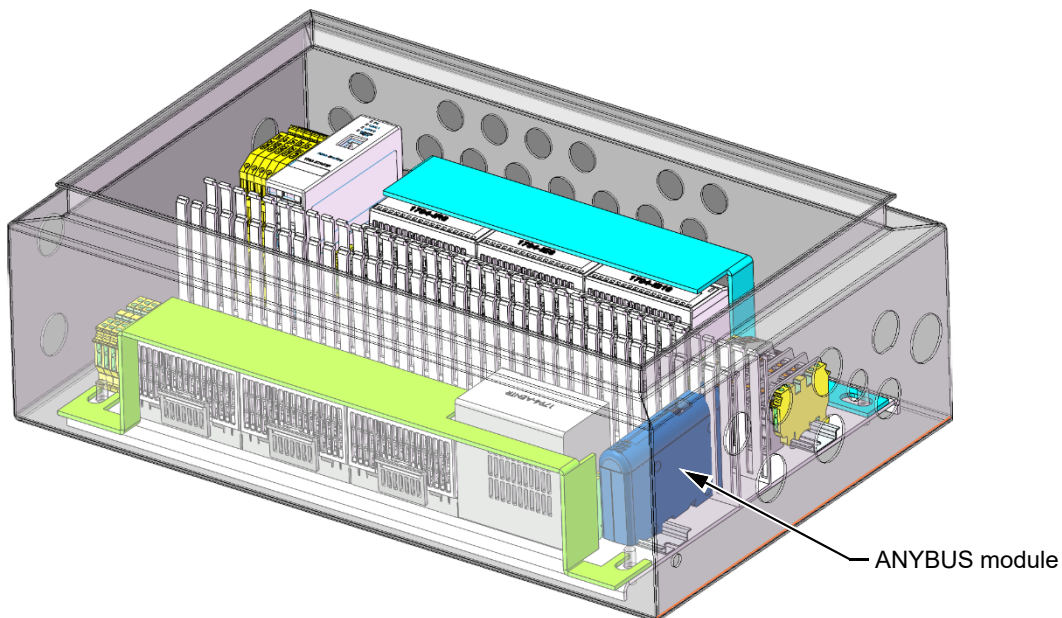

Figure 8: Brackets installed
If an ANYBUS module is present, remove it from the DIN rail and relocate it adjacent to the wire duct or secure it in an available space next to the duct. Refer to Figure 8.
4. Tighten the bolts once the bracket is in place. See Figure 8 for reference.